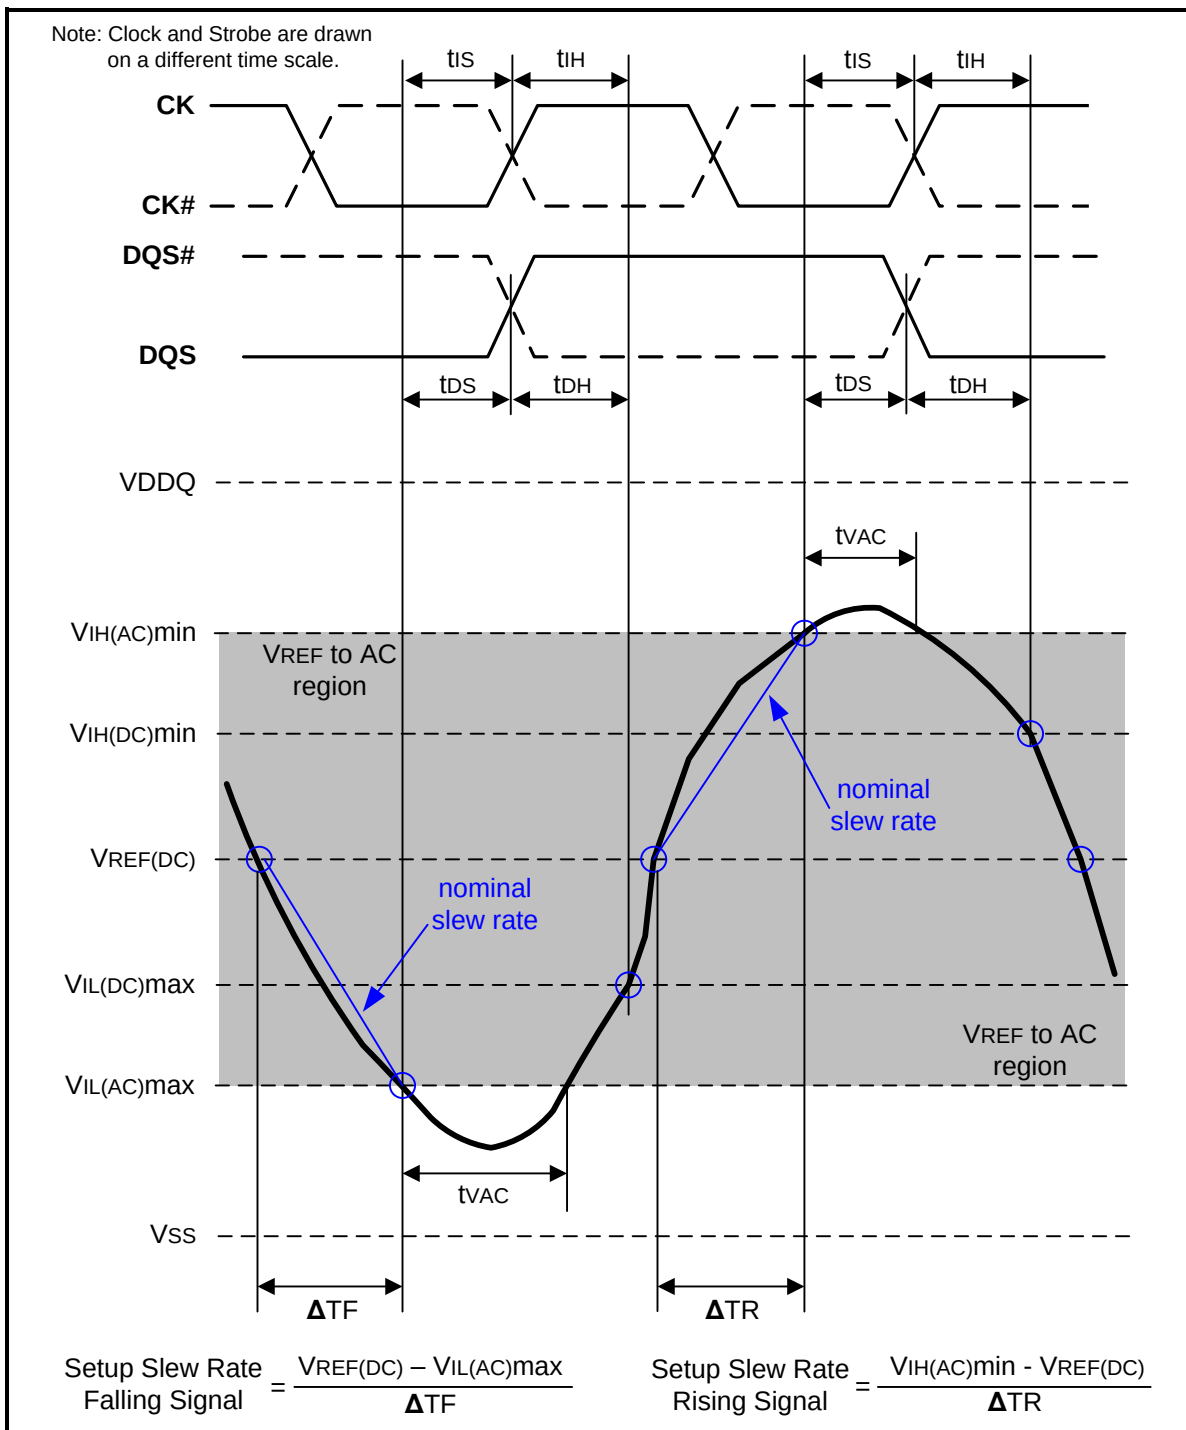
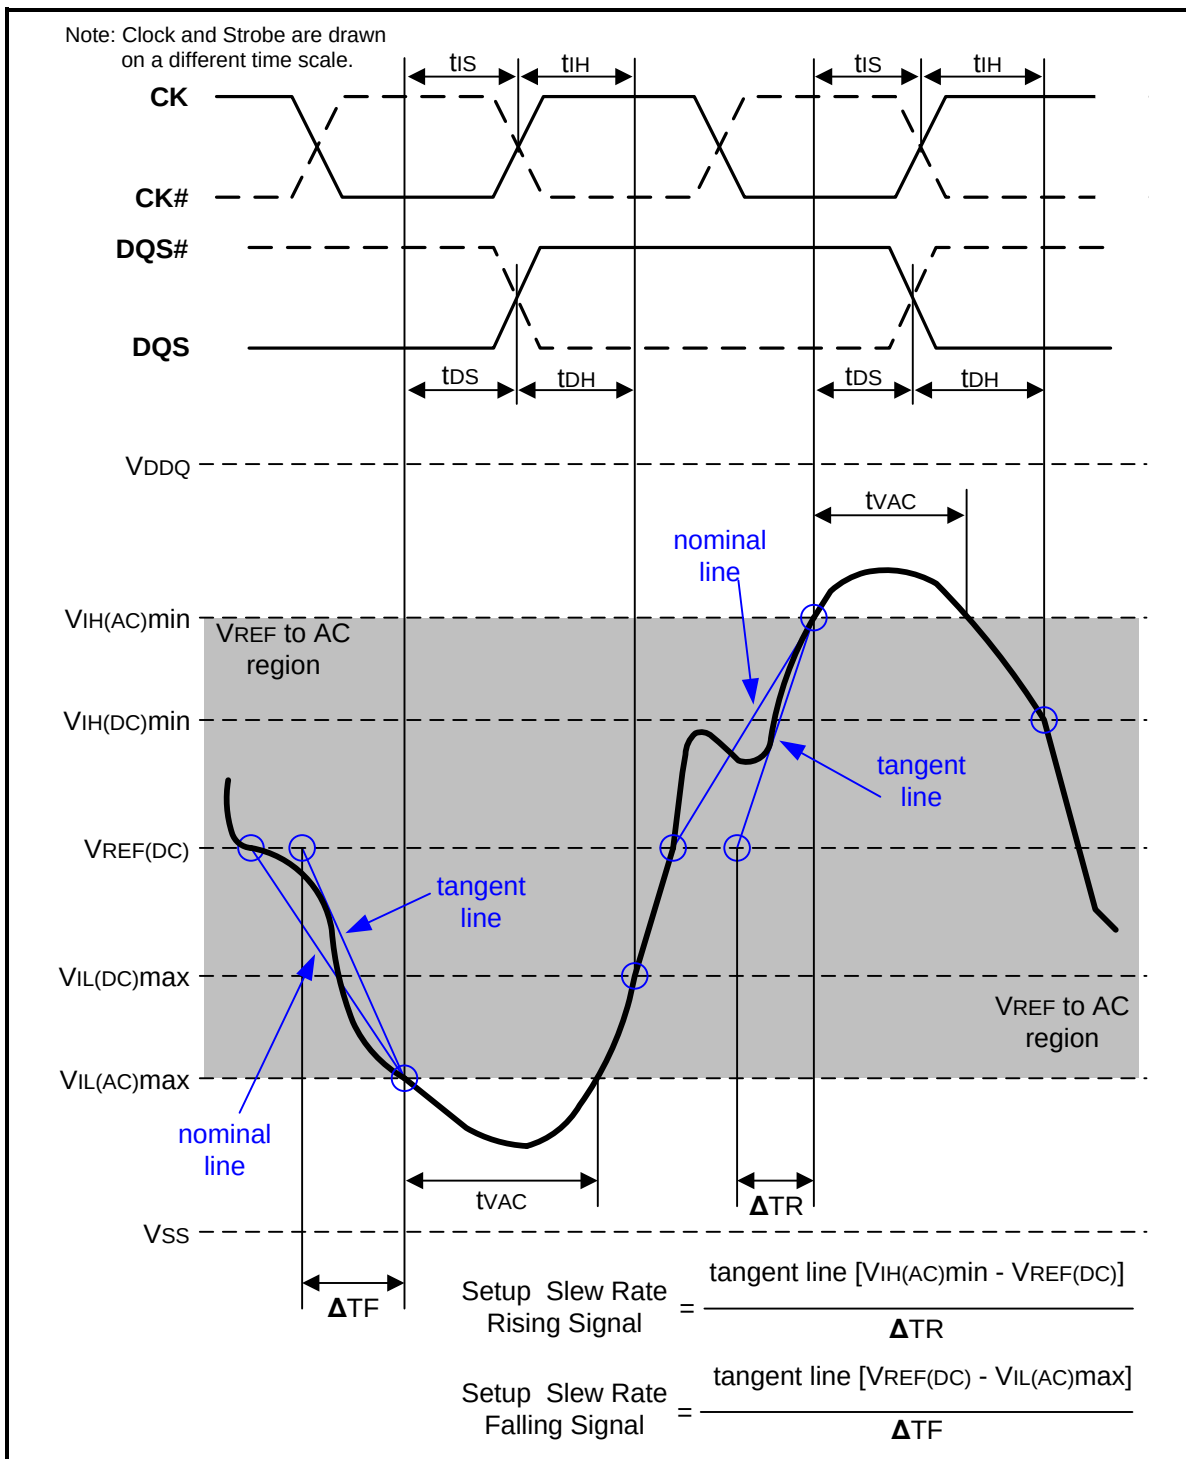

Figure 107 – Illustration of nominal slew rate and t_{vac} for setup time t_{ds} (for DQ with respect to strobe) and t_{is} (for ADD/CMD with respect to clock)
Figure 109 – Illustration of tangent line for setup time tds (for DQ with respect to strobe) and tis (for ADD/CMD with respect to clock)
Setup (t_{IS}) nominal slew rate for a rising signal is defined as the slew rate between the last crossing of $V_{REF}(\text{DC})$ and the first crossing of $V_{IH}(\text{AC})_{\text{min}}$. Setup (t_{IS}) nominal slew rate for a falling signal is defined as the slew rate between the last crossing of $V_{REF}(\text{DC})$ and the first crossing of $V_{IL}(\text{AC})_{\text{max}}$. If the actual signal is always earlier than the nominal slew rate line between shaded 'VREF(DC) to AC region', use nominal slew rate for derating value (see Figure 107). If the actual signal is later than the nominal slew rate line anywhere between shaded 'VREF(DC) to AC region', the slew rate of a tangent line to the actual signal from the AC level to $V_{REF}(\text{DC})$ level is used for derating value (see Figure 109).
Setup (tDS) nominal slew rate for a rising signal is defined as the slew rate between the last crossing of VREF(DC) and the first crossing of VIH(AC)min. Setup (tDS) nominal slew rate for a falling signal is defined as the slew rate between the last crossing of VREF(DC) and the first crossing of VIL(AC)max (see Figure 107). If the actual signal is always earlier than the nominal slew rate line between shaded 'VREF(DC) to AC region', use nominal slew rate for derating value. If the actual signal is later than the nominal slew rate line anywhere between shaded 'VREF(DC) to AC region', the slew rate of a tangent line to the actual signal from the AC level to VREF(DC) level is used for derating value (see Figure 109).